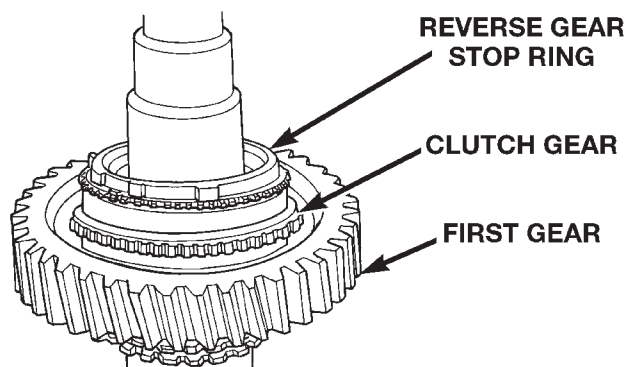

Fig. 114 Clutch Gear Stop Ring Installation
(30) Install stop ring on clutch cone (Fig. 114). Be sure stop ring is fully seated on cone taper.